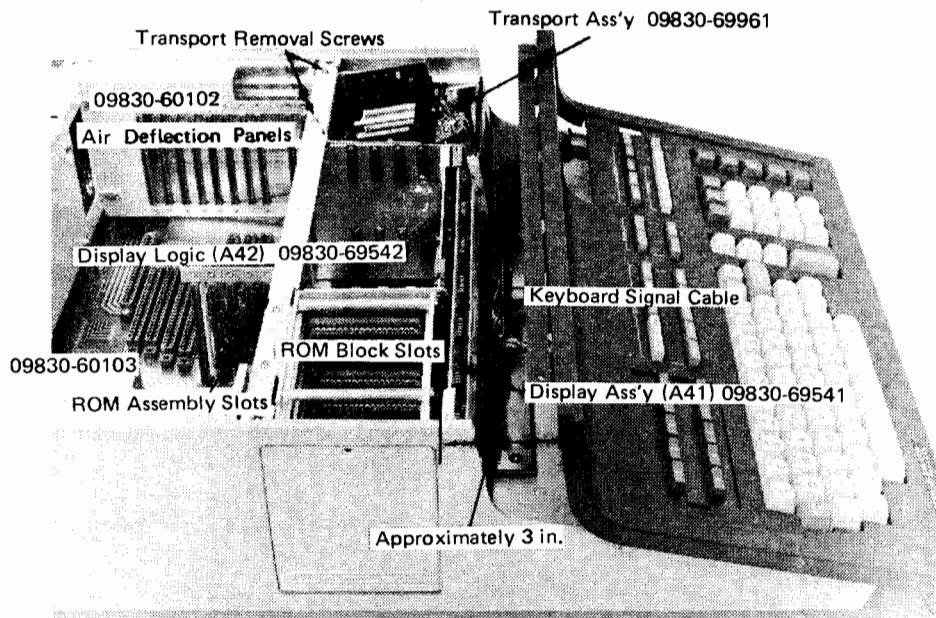
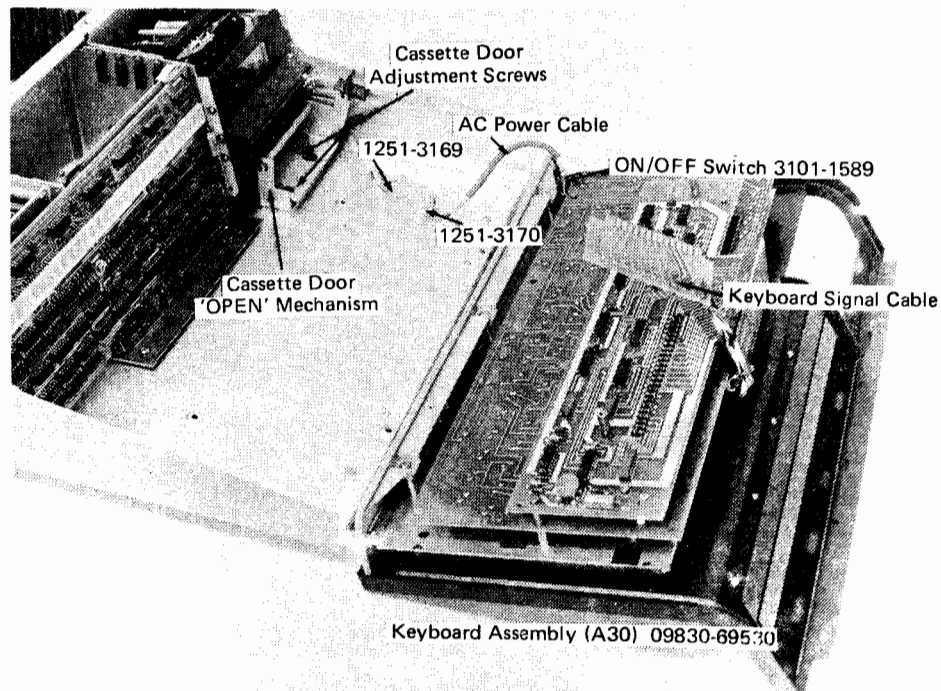

Figure 6-5. Removing the Keyboard.
Figure 6-6. Removing the Calculator Keyboard.
3. To remove the keyboard, remove the four screws in the bottom of the calculator which hold the keyboard to the chassis. Next, pull the keyboard forward approximately three inches. (See Figure 6-5.)
4. The keyboard signal-cable connector is approximately in the center of the calculator, and just forward of the display assembly (A41) (See Figure 6-5). Once the signal cable is disconnected from the calculator, the keyboard may be removed and the ac power connector (See Figure 6-6) may be disconnected. The display (A41) assembly may be removed after the screw in center of the pc board is first removed.
When the transport assembly is installed into the calculator, the transport door must be aligned with the calculator keyboard and must open only when the 'OPEN' lever is pulled. This is accomplished by loosening the two transport adjustment screw (See Figure 6-5) and making the proper adjustments. Then, tighten the two screws and check the transport door for alignment and proper operation. The door 'OPEN' mechanism (See Figure 6-6) must then be checked and, if necessary, adjusted using the two screws which secure the lever to the chassis.